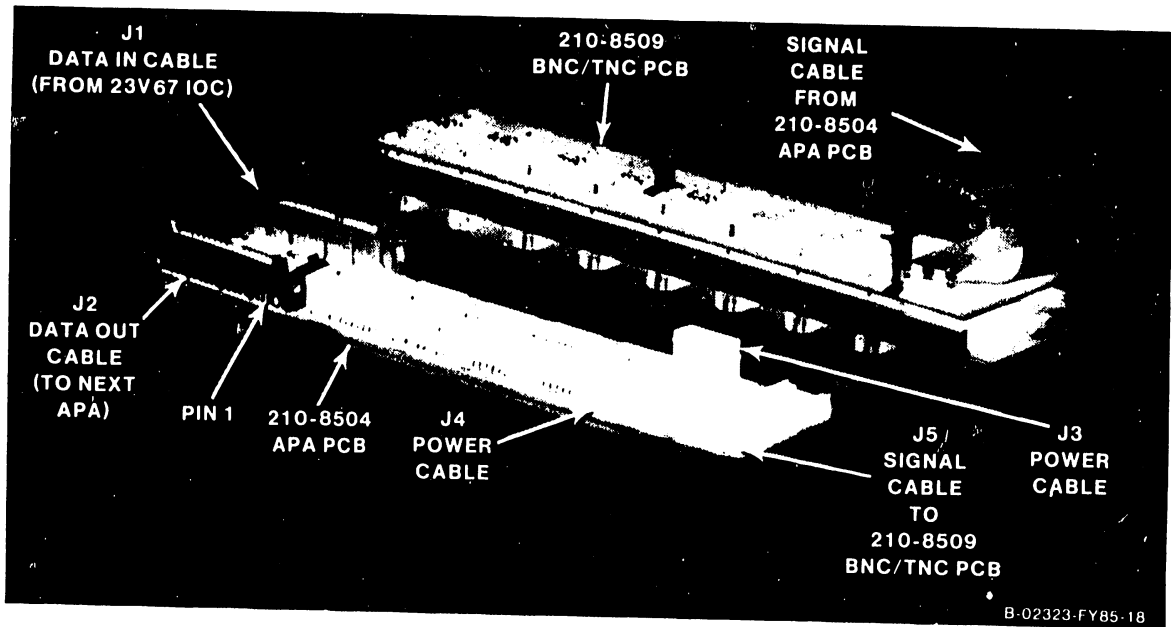
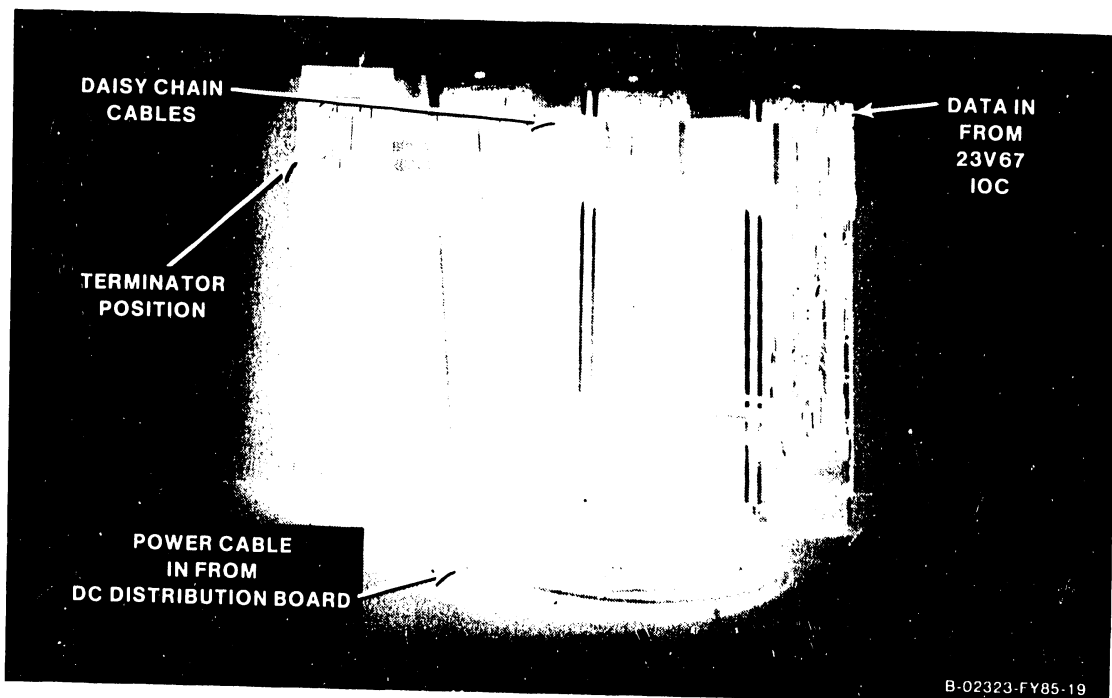

Figure 7-19. 270-0975 APA Assembly
Figure 7-20. Daisy Chained APA Assemblies
2. Figure 7-19 shows one assembly and figure 7-20 shows four assemblies daisy chained. The last APA must be terminated at J2 with a 210-8503 terminator board.